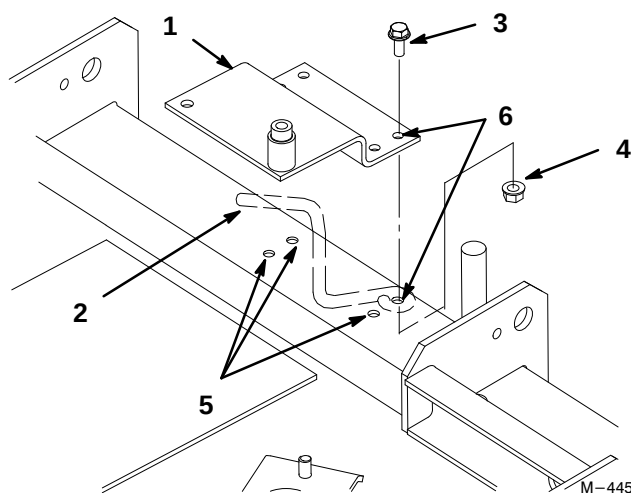

Figure 3
1. Remove existing belt guide and hardware and discard (Fig. 3).
2. Align hole in bracket to the hole the belt guard was installed in (Fig. 3).
3. Position belt idler bracket rear edge parallel to the rear edge of deck (Fig. 3).
4. Install one bolt through the bracket and where the belt guide was installed in deck. Install nut and tighten (Fig. 3).
5. Using bracket as a template, drill three $2\frac{1}{64}$ " holes into deck (Fig. 3).
6. Install bolts into bracket and securely tighten bracket to the deck with nuts (Fig. 3).